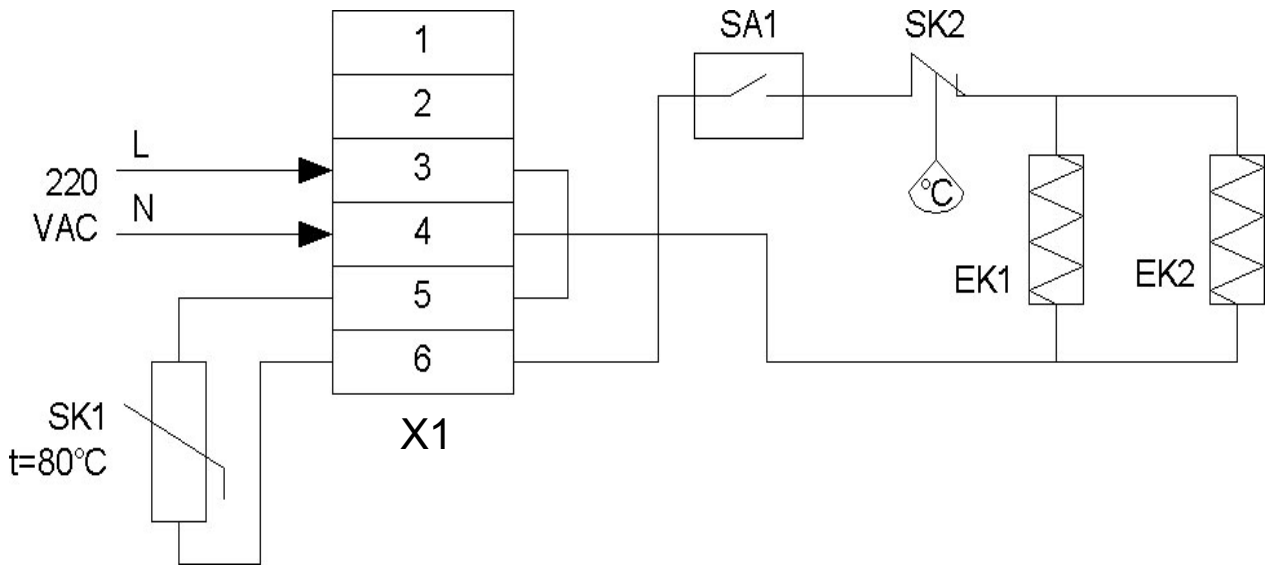

Fig. 3. Electric connection diagram (127VAC\220VAC).
5. Connect the leads to appropriate terminals in the terminal blocks as per the electric diagram (refer to fig 3 and 4).